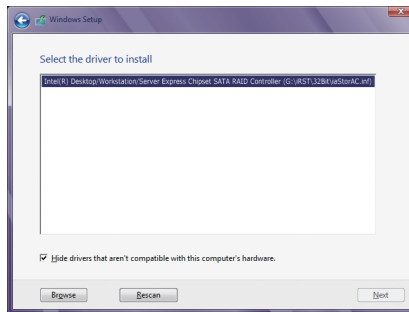

Figure 1
When a screen as shown in Figure 1 appears, select **Intel(R) Desktop/Workstation/Server Express Chipset SATA RAID Controller (G:\IRST\32Bit\usStar4.inf)** and click **Next** to load the driver and continue the OS installation.